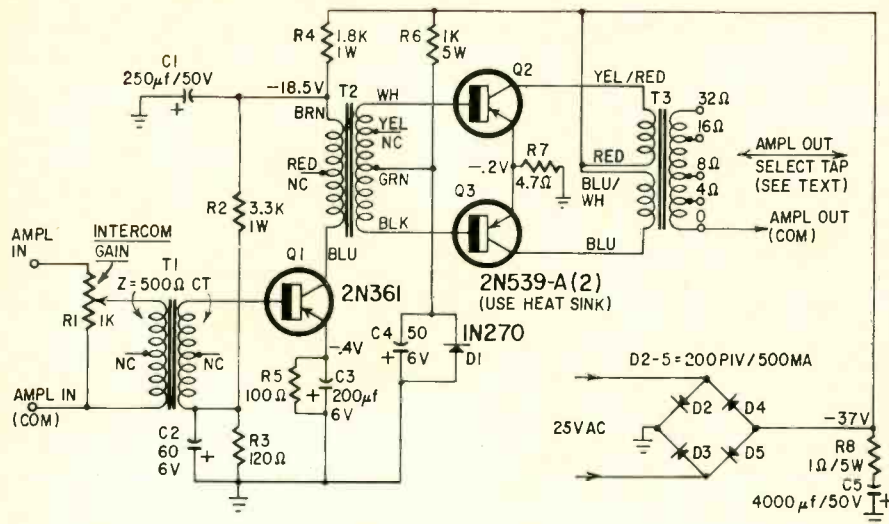

Fig. 3—Sole amplifier in system uses only three transistors, takes ac power from circuit in Fig. 2.
Amplifier input and output leads are isolated by transformers T1 and T3 (Fig. 3) to prevent feedback from common voltage drops in the long lines between amplifier and stations.
- Parts List, Fig. 3**